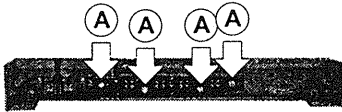

Figure 2-7 Remove the Control Board
1. Remove the four screws from the control board. Refer to the figure 2-7 (A).